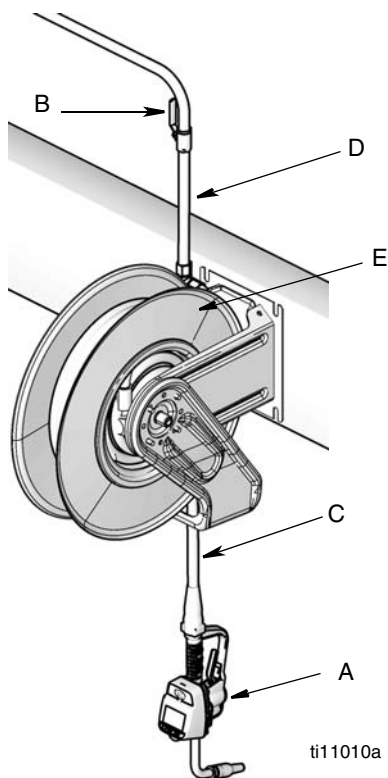

FIG. 1
Typical Installations (FIG. 1)
The typical installation shown in FIG. 1 is only a guide. It is not a complete system design. Contact your Graco distributor for assistance in designing a system to suit your needs.
2. Close the shut-off valve (B, FIG. 1).
1. Close the fluid shut-off valve (B, FIG. 1, page 8) at each dispense position.
4. Slowly open the shut-off valve (B) at the dispense position. Flush out a sufficient amount of oil to ensure that the entire system is clean; then close the valve.